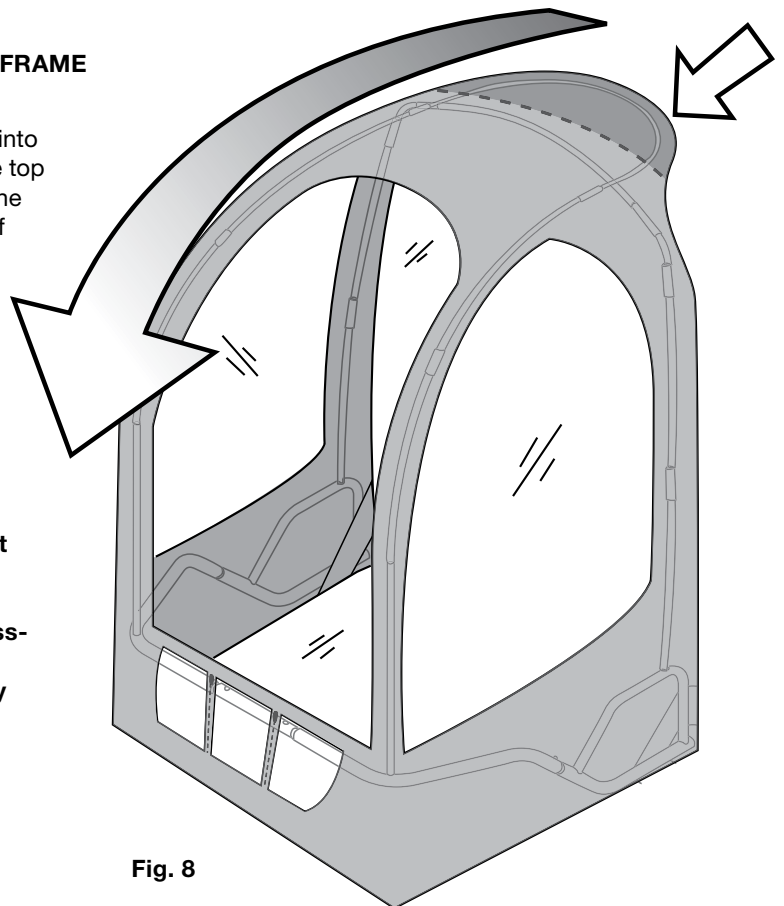

Fig. 8
INSTALL THE FABRIC CAB SKIN TO THE ASSEMBLED FRAME (FIG. 8)
11. Unfold the fabric cab skin [Q] and find the pocket sewn into the top rear part of the cab skin roof. Carefully insert the top curved section of the assembled front hoop poles into the pocket on the cab skin. The front hoop poles and roof of the cab skin will rest on top of the assembled frame hoop poles. (Fig. 8)